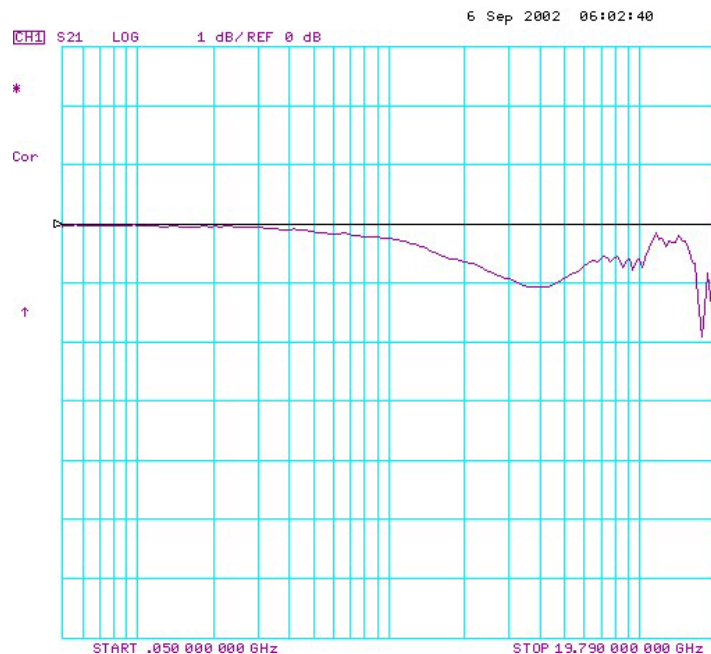

Figure 221 Typical V_{in} Waveform for an 1134A Probe
- 35 The V_{in} waveform shown on screen should be similar to that shown in **Figure 221** on page 195.